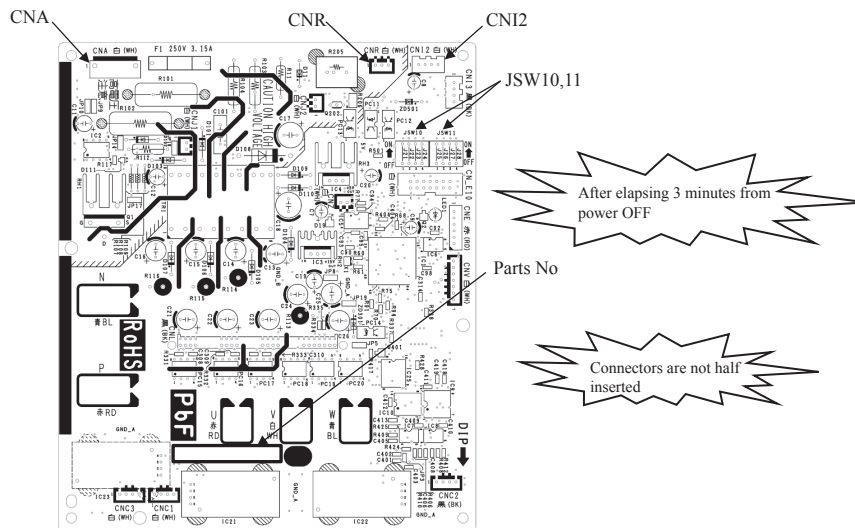

Fig.1 Parts arrangement view of inverter PCB
- 6) Disconnect connectors from the inverter PCB (Refer to Fig.1), remove a snubber capacitor (Refer to Fig.4) and harnesses ("P", "N", "U", "V" and "W"), and exchange the inverter PCB then. In the situation of being opening main layer, do not press the control from above. It will cause the product deformation or injury.